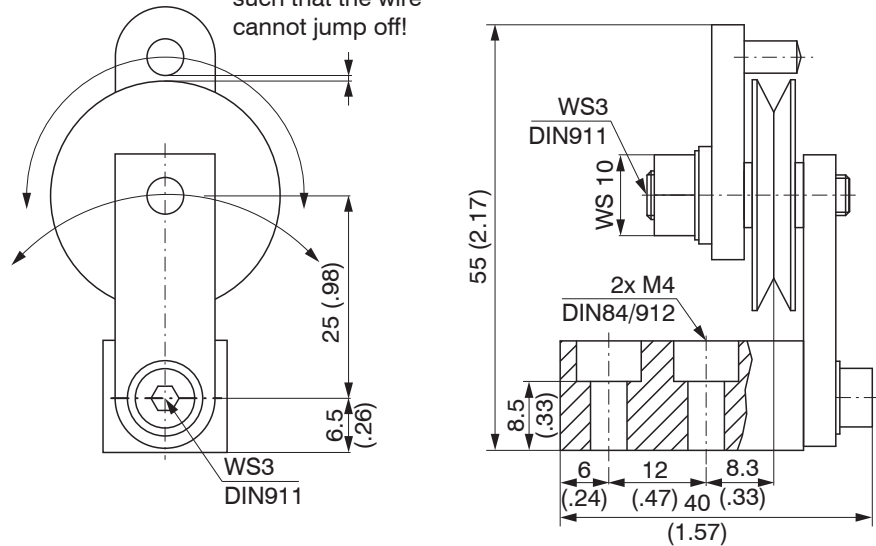

Fig. 7 Deflection pulley TR1-WDS with mounting foot, dimensions in mm, not to scale
- TR1-WDS Wire deflection pulley with mounting foot, see Fig. 7